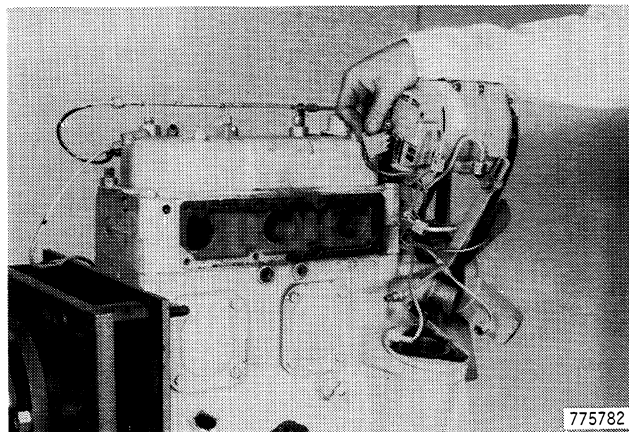

Figure 36
11. Pull the alternator connecting plug from the alternator, Figure 36.